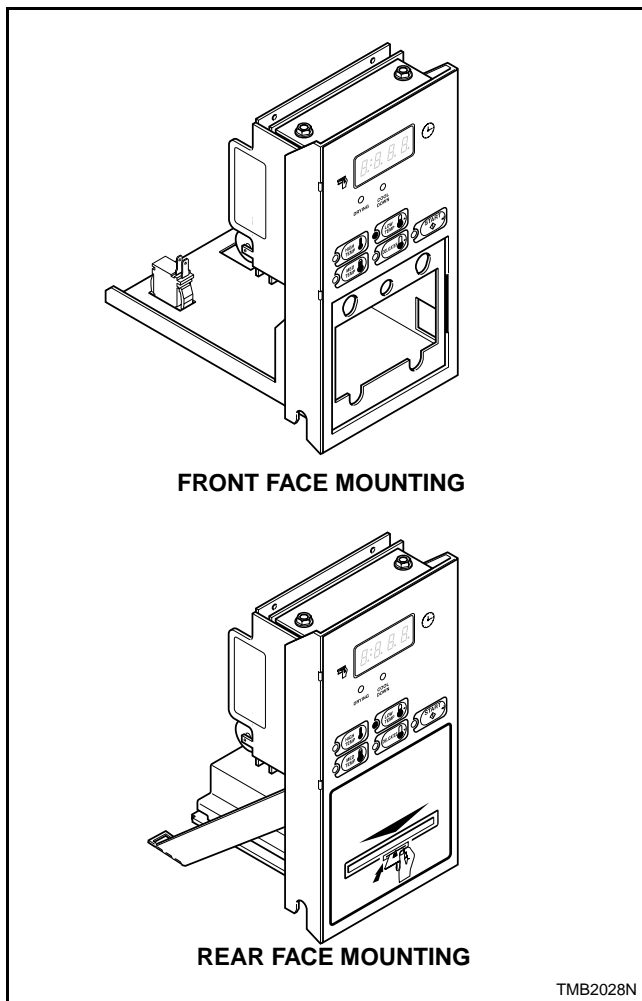

Figure 1
1. Determine card reader mounting type. Refer to *Figure 1*.